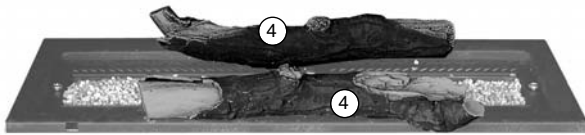

Fig. 16
3. Locate the log and pine cone pieces in order as shown in Figs. 16 to 22.